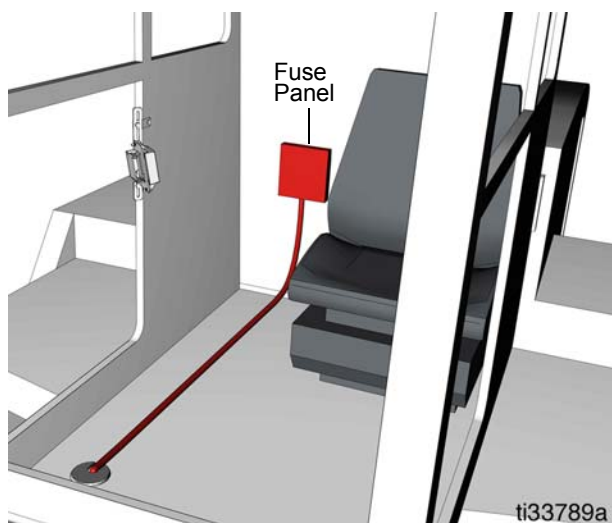

FIG. 15
- If your pump uses a GLC2200 Controller, route the pump power cable into the cab, toward the fuse panel (FIG. 15). See Wiring Guidelines, page 18.